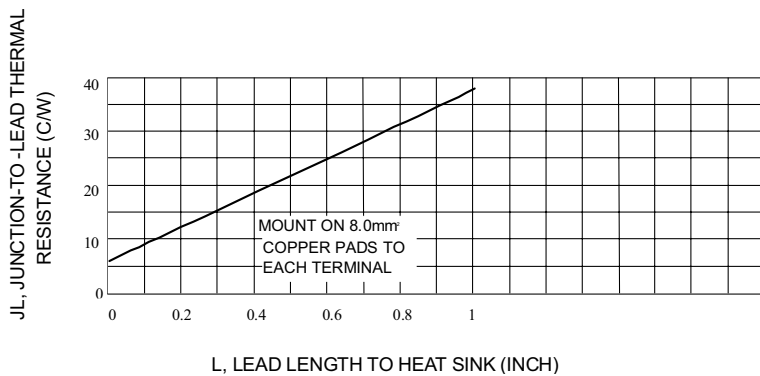
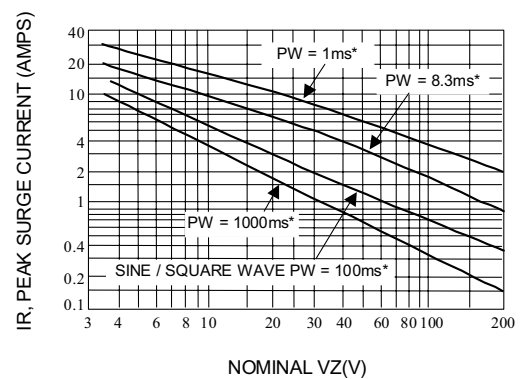
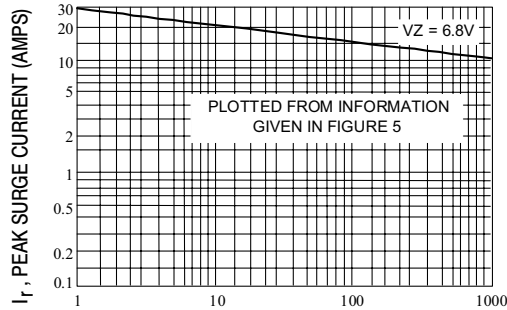

Fig. 4-TYPICAL THERMAL RESISTANCE
Fig. 5-MAXIMUM NON-REPETITIVE SURGE CURRENT VERSUS NOMINAL ZENER VOLTAGE (SEE NOTE 3)
Fig. 6-PEAK SURGE CURRENT VERSUS PULSE WIDTH(SEE NOTE 3)
3. SURGE CURRENT (I_r) - Surge current is specified as the maximum allowable peak, non-recurrent square-wave current with a pulse width, PW, of 8.3 ms. The data given in Figure 5 may be used to find the maximum surge current for a square wave of any pulse width between 1 ms and 1000ms by plotting the applicable points on logarithmic paper. Examples of this, using the 6.8v, is shown in Figure 6. Mounting contact located as specified in Note 3. ($T_A=25\text{ }^\circ\text{C}$).
ΔT_{JL} is the increase in junction temperature above the lead temperature and may be found from Figure 4 for a train of power pulses or from Figure 1 for dc power.
Data of Figure 4 should not be used to compute surge capability. Surge limitations are given in Figure 5. They are lower than would be expected by considering only junction temperature, as current crowding effects cause temperatures to be extremely high in small spots resulting in device degradation should the limits of Figure 5 be exceeded.
*** Data of Figure 3 should not be used to compute surge capability. Surge limitations are given in Figure 5. They are lower than would be expected by considering only junction temperature, as current crowding effects cause temperatures to be extremely high in small spots resulting in device degradation should the limits of Figure. 5 be exceeded